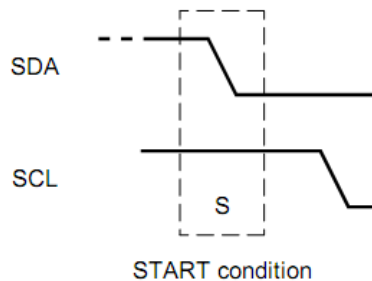

Figure 5: START Condition Diagram adapted from Official I²C Specifications
For an I²C master to request a data transfer either to or from an I²C slave device, it must generate a START condition. The purpose of the START condition is to alert all the devices connected to the I²C bus that (1) an I²C master is going to perform a data transfer and (2) to be prepared to receive the address of the slave it wants to access, as it might be you. A START condition is recognized by an I²C slave when the slave detects a high-to-low transition on the SDA line while the SCL line continues to stay at a high (logic '1') level, as shown in figure 5.